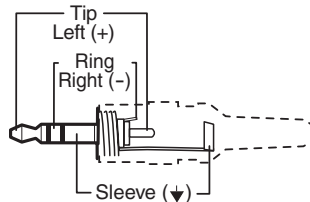

Figure 5. Audio Input Connector Wiring
- B Audio input** — Connect an unbalanced stereo audio source to this 3.5 mm mini stereo jack. Figure 5 shows how to wire the audio plug.
- B Audio output connector** — Connect a stereo audio device to this 3.5 mm mini stereo jack to receive the unbalanced audio output (see figure 5 on page 6 for wiring details).